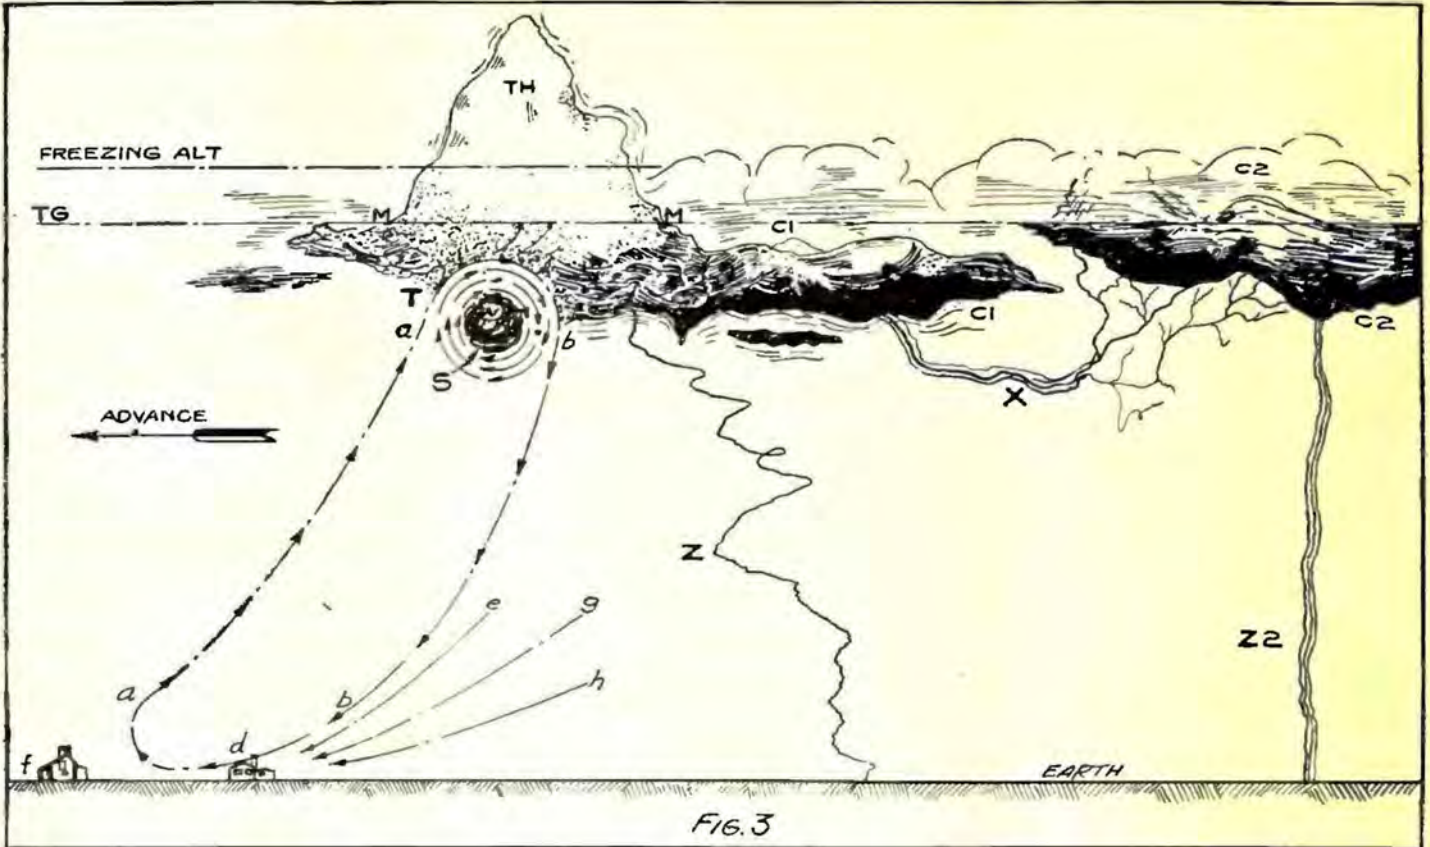

FIG. 3
Fig. 3 is a diagrammatic representation of a thunderstorm during its development. The whole affair starts in with the establishment of a vertical air current on a hot, sultry day with the air containing sufficient moisture to condense rapidly at a slightly reduced temperature. The moist air starts to ascend along (a-a), and in the course of time builds up to an altitude (T) where the temperature is low enough to cause condensation and to form visible clouds of water vapor. At this height, the air is cooled and descends along the line (b-b) until it strikes the earth and is again heated sufficiently to re-ascend along (a-a). This continues until a considerable area of clouds is formed at the altitude (TG), and as each minute particle of water carries an electrical charge with it, the cloud bank finally becomes a highly concentrated, charged mass formed by the accumulation of the individual charges. The ever-increasing velocity of the vertical current throws the vapor higher and higher until some of it is thrown up into an altitude where the temperature is low enough to cause freezing. The water vapor now becomes an intensely white